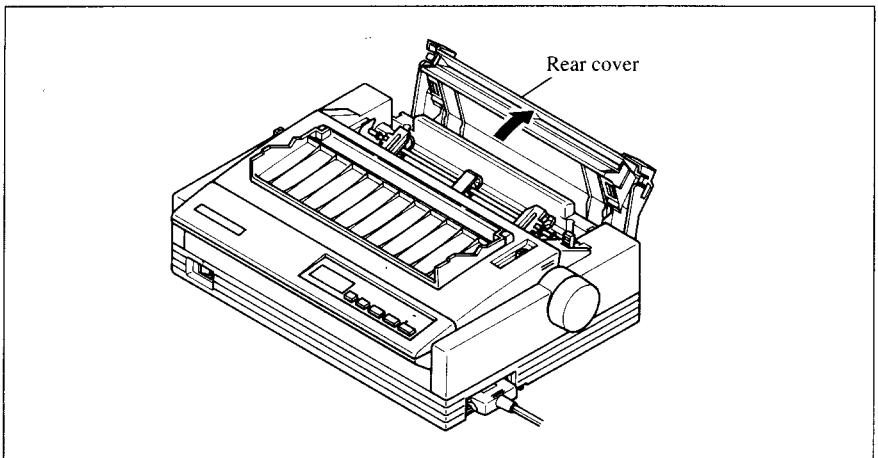

Figure 3-5. Opening the rear cover.
5. Open the rear cover using the two grips on either side, as in Figure 3-5.